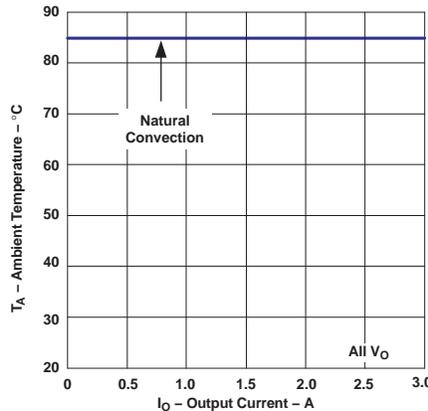

Figure 4. Ambient Temperature vs. Output Current
- (2) The temperature derating curves represent the conditions at which internal components are at or below the manufacturer's maximum operating temperatures. Derating limits apply to modules soldered directly to a 100 mm x 100 mm double-sided PCB with 2 oz. copper. Applies to Figure 4.